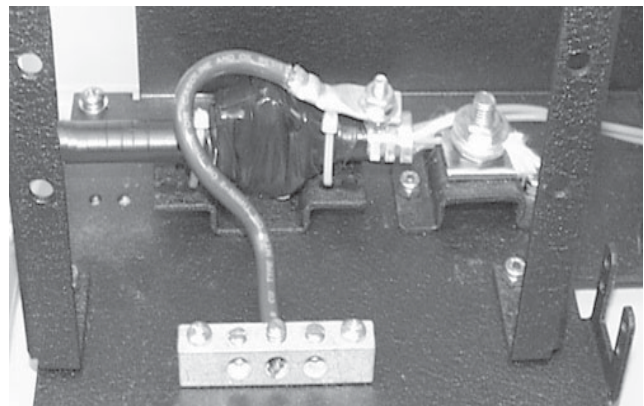

Figure 11
**9.7** When cable grounding is necessary, a hardware ground kit (purchased separately) is required. Install the ground kit as shown in Figure 11.